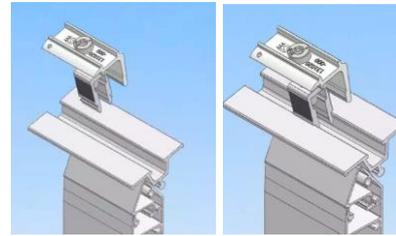

Figure 4.3.1A: Positioning end clamp
- I. Position end clamps on the Module Support attached to the Pro Heightening Element, do not tighten [Figure 4.3.1A].